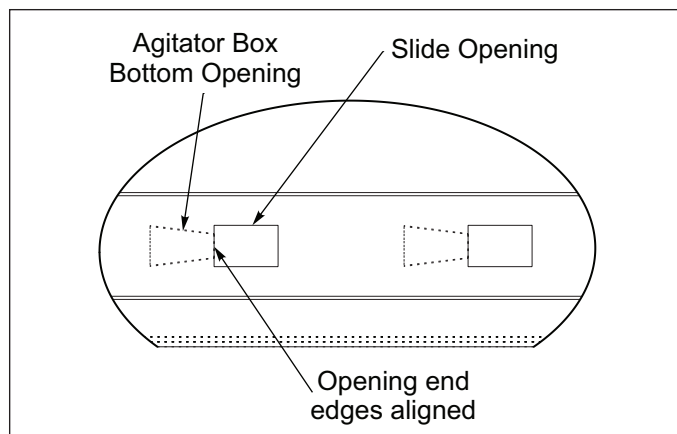

Figure 5-9: Shifter Handle Set at “0”
- When the Shifter Handle is set to “0” (closed), the Agitator Box bottom opening end edge is aligned with the Slide opening end edge. **See Figure 5-9.**